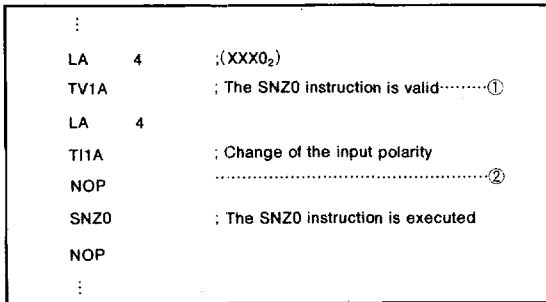

Fig. 69 External 0 interrupt program example
- Clear the bit 0 of the register V1 to "0" before the input edge polarity of the interrupt input pin INT₀ is changed with the bit 2 of the register I1 (refer to Fig. 69①).
- Depending on the input state of the INT₀ pin, the external 0 interrupt request flag EXF0 may be set when the input edge polarity is changed. Accordingly, set a value to register I1, and execute the SNZ0 instruction after executing at least one instruction (refer to Fig. 69②), and then clear the EXF0 flag.